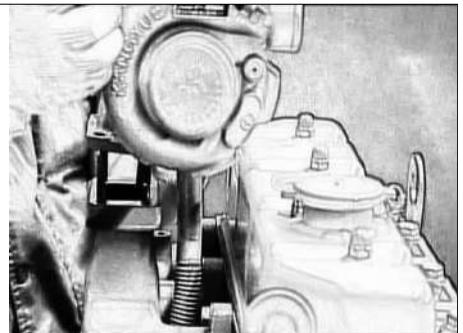

Fig 5-29 Turbocharger Installation
3.2.1 Install turbocharger on exhaust manifold, Put gasket in right place, and tighten bolts (see Fig 5-29).